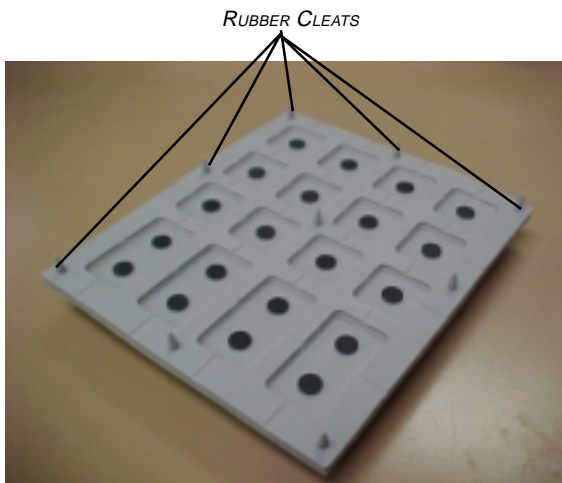

FIGURE 3a. RUBBER KEYPAD CLEATS.
6. Place the Rubber Keypad on the replacement board, ensuring it is oriented correctly (see Figures 3a and 3b), and line up the rubber cleats on the back surface of the keypad with the corresponding holes in the SPED board, as shown in Figure 3c. Pull the rubber cleats through the matching holes in the board, as shown in Figure 3d, ensuring the keypad is flush with the surface of the SPED board.